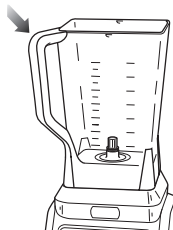

Fig. 3b
- 5 The pitcher can be placed on the motor base two ways; the handle can be on the front right corner or the front left corner. (Fig. 3a, Fig. 3b)